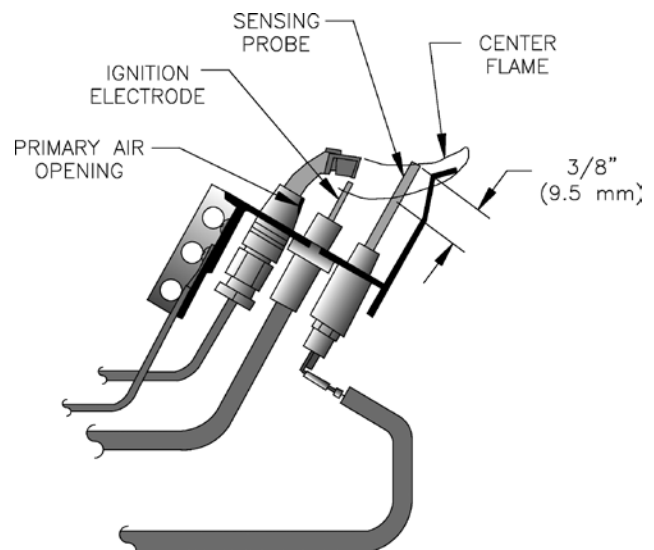

Figure 19: Pilot Burner Flame, Intermittent Ignition
2. Intermittent Ignition (EI). See Figure 19. Pilot produces three (3) flames. Center flame should be steady, medium hard blue enveloping 3/8 to 1/2 inch of sensing probe.